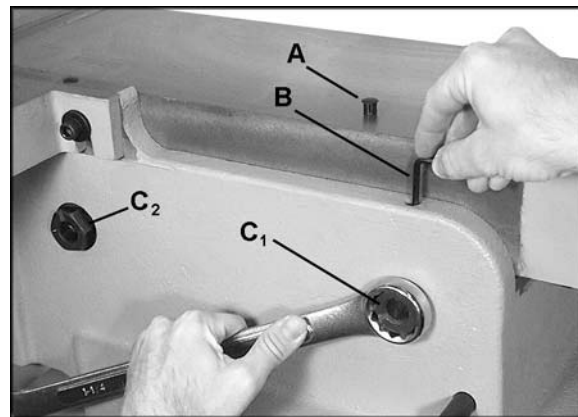

Figure 22
- Each table has four cam adjustment devices; two in front and two in back. (C, Figure 22 shows one of these).
- At the area of the table where the adjustment must be made, pry out the cap (A, Figure 22) from the hole.
- There are two set screws in the hole. Insert a 4mm hex wrench (B, Figure 22) into the hole and loosen the upper set screw by turning the hex wrench counterclockwise. Remove the upper set screw from the hole.
- Turn the hex nut (C1, Figure 22) with a 1-1/4" wrench. **This adjustment is sensitive and should be made in small increments.**
NOTE: The rotation is different for left and right hex nuts; the right hex nut (C1) being turned in Figure 22 will be turned clockwise to raise that area of the table, or counterclockwise to lower that area of the table. The left hex nut (C2) shown in Figure 22 would be rotated in the opposite manner.
- When the adjustment is satisfactory, with the tables now coplanar, tighten the lower set screw with the hex wrench (B, Figure 22).
- Re-insert the cap (A, Figure 22) to keep dust and debris out of the hole.